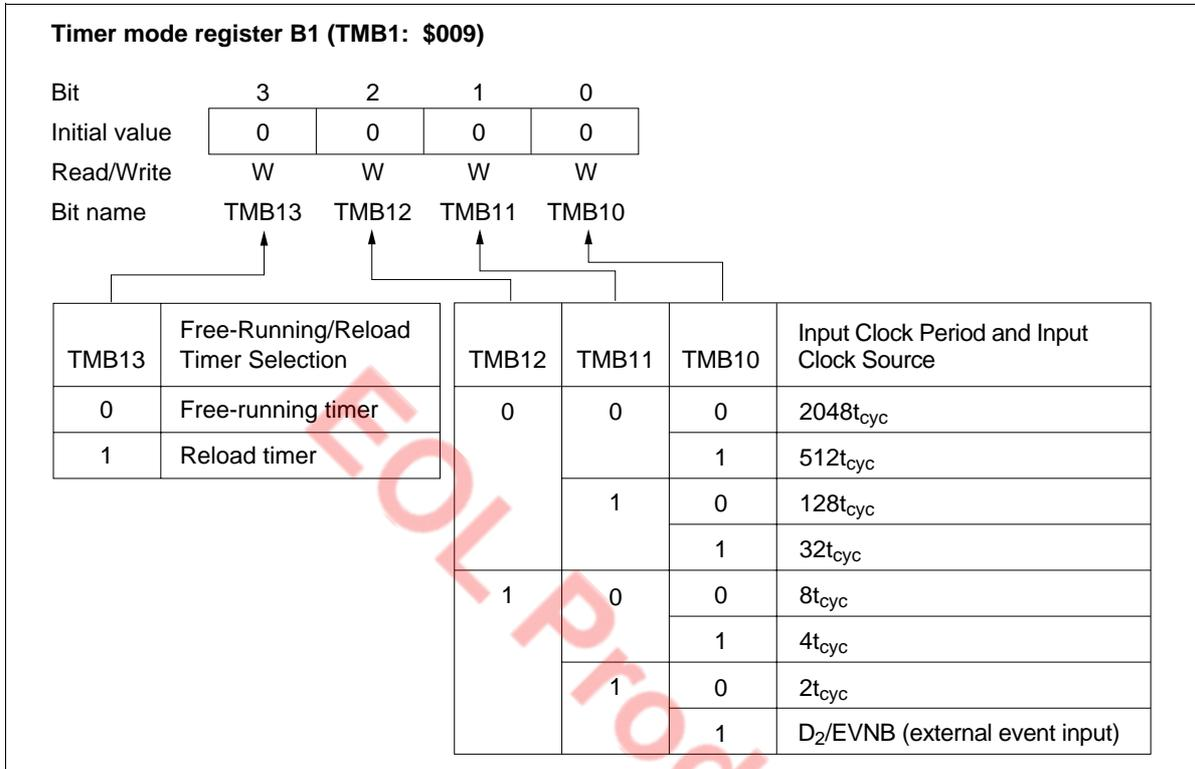

Figure 33 Timer Mode Register B1 (TMB1)
- Timer mode register B1 (TMB1: \$009): Four-bit write-only register that selects the free-running/reload timer function, input clock source, and the prescaler division ratio as shown in figure 33. It is reset to \$0 by MCU reset.